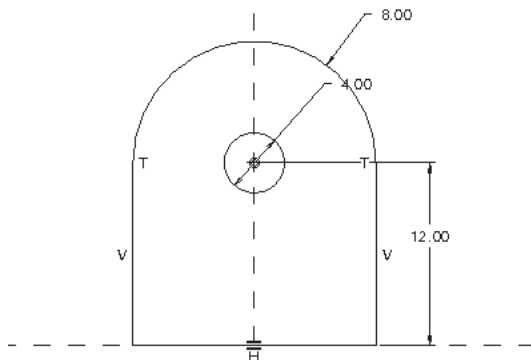

Figure 4-57 Sketch for the base feature with dimensions and constraints
- Create the base feature, refer to Figures 4-57 and 4-58.
1. Draw the sketch using various sketcher tools and add the required constraints and dimensions shown in Figure 4-57. When you initially draw the sketch, it is dimensioned automatically and some weak dimensions are assigned to it.
2. Modify the dimension values to those shown in Figure 4-57.